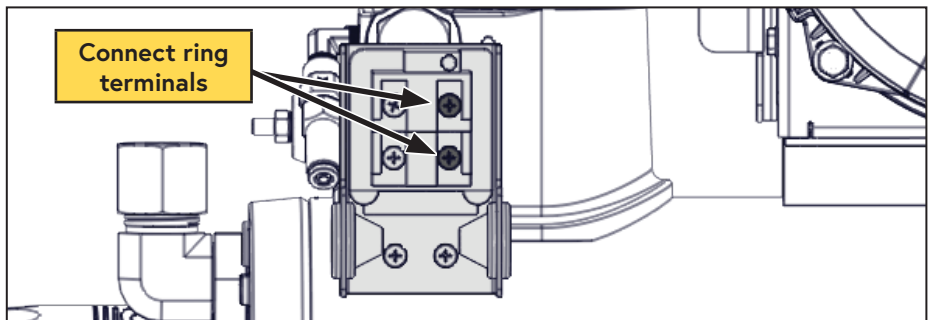

Figure 62 — Connect pressure switch
- Connect the ring terminals from the white wire running from CN3 of the control module, and the grey wire running from the pressure switch (at the compressor), to the pressure switch on the WHASP Tank (these are not polarity dependent) (Figure 62).